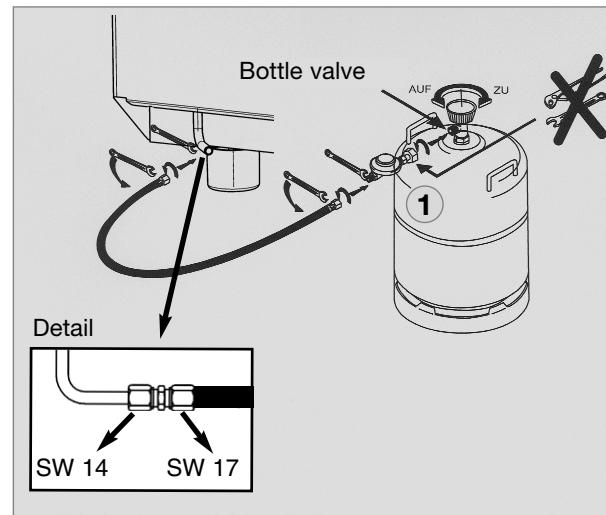

Fig. 3
- A preset pressure regulator (1), Fig. 3, has to be installed within the supplying line to the fridge. The fridge must not be operated with any other pressure than the one indicated on the rating label.